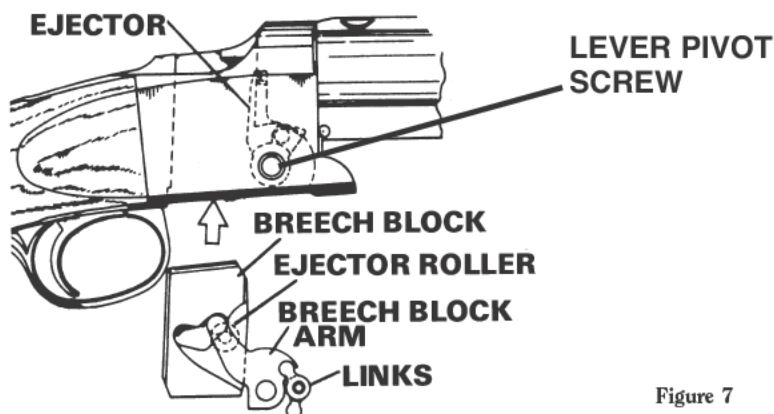

Figure 7
2. Assemble breech block, breech block arm, ejector roller and linkage as shown in Figure 7, and replace as a unit into receiver while holding the ejector against the inside receiver wall.